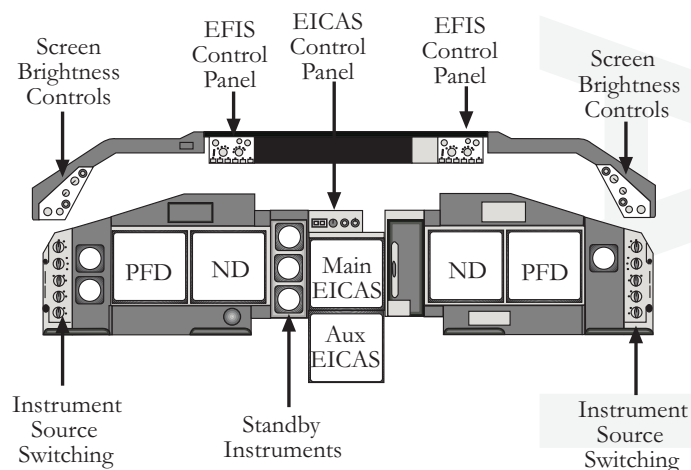

Figure 5.3 – Boeing 747-400 Flight Deck Panels
However, it is still a legal requirement that the basic 'I' information is permanently displayed to the flight crew, and the two outboard tubes on each side of the cockpit are usually used for this purpose, figure 5.3.
As shown, there are some additional mechanical standby instruments on these panels with instrument source selector switches. The centre panel, ②, has two displays dedicated to the *Engine Indication and Crew Alerting System (EICAS)*. The upper screen usually displays primary engine data and any fault or emergency warnings, while the bottom displays secondary data, systems' status and, when selected, system synoptic displays, as in figure 5.3 above.